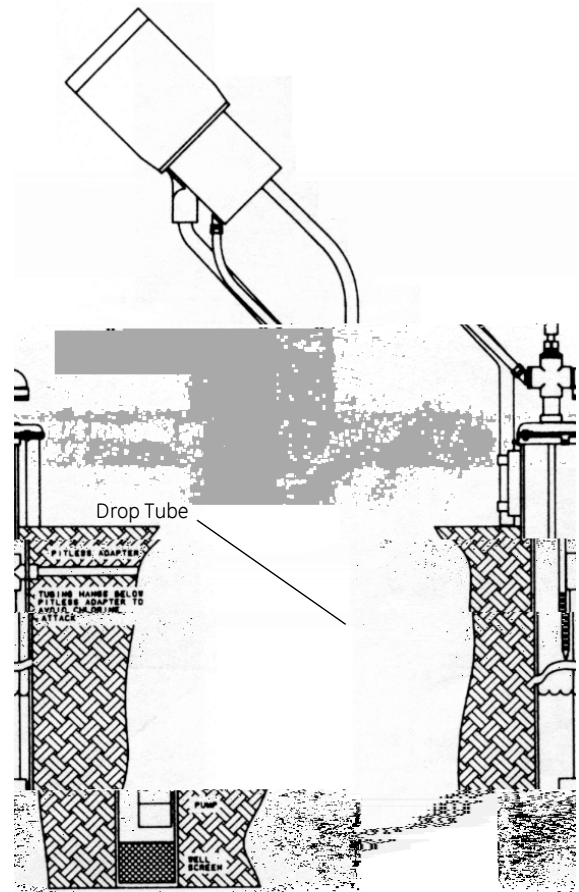

Figure 6
2. The drop tube should extend below the pitless adapter, Figure 6.